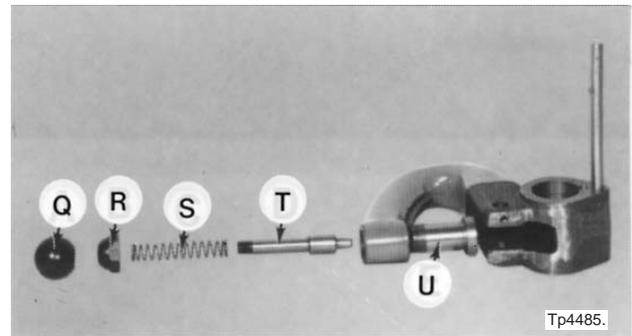

Figure 4.29 - Plunger Assembly
- f) Remove ball handle "Q", Figure 4.29, nut "R", spring "S", plunger "T" and bushing "U".
- a) Replace bushing "U", Figure 4.29, plunger "T", spring "S", nut "R", and ball handle "Q".